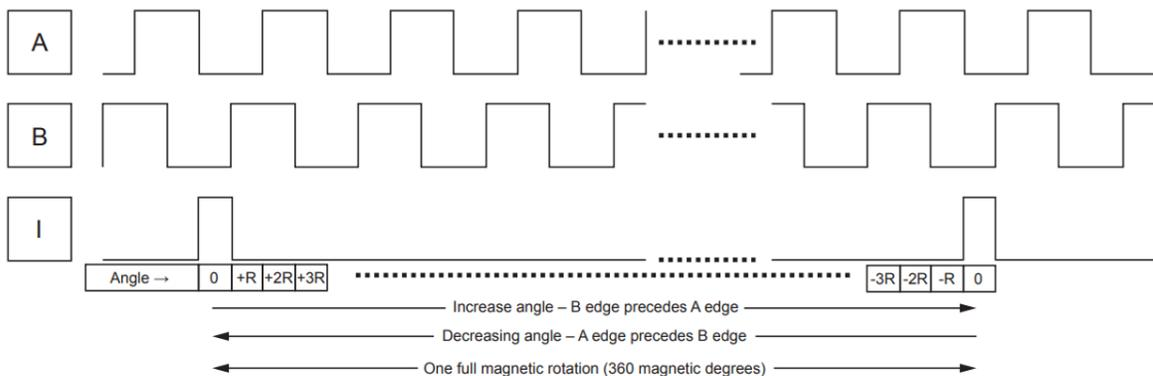

Figure 14: ABI Output Protocol
The A1339 offers an incremental output mode in the form of quadrature A/B and index outputs to emulate an optical or mechanical encoder. The A and B signals toggle with a 50% duty cycle (relative to angular distance, not necessarily time) at a frequency of $2N$ cycles per magnetic revolution, giving a cycle resolution of $(360 / 2N)$ degrees per cycle. B is offset from A by $1/4$ of the cycle period. The “I” signal is an index pulse that occurs once per revolution to mark the zero (0) angle position. One revolution is shown in Figure 14.